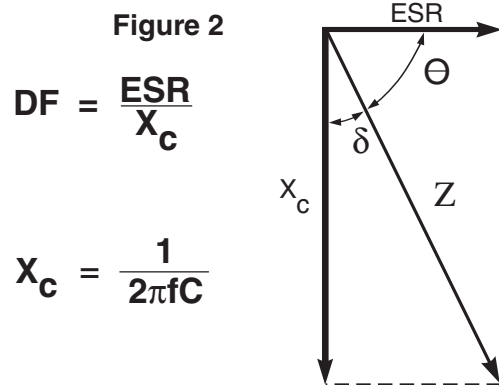

Figure 2
Dissipation Factor: Dissipation Factor (DF) is a measure of the losses in a capacitor under AC application. It is the ratio of the equivalent series resistance to the capacitive reactance, and is usually expressed in percent. It is usually measured simultaneously with capacitance, and under the same conditions. The vector diagram in Figure 2 illustrates the relationship between DF, ESR, and impedance. The reciprocal of the dissipation factor is called the "Q", or quality factor. For convenience, the "Q" factor is often used for very low values of dissipation factor. DF is sometimes called the "loss tangent" or "tangent δ ", as derived from this diagram.
The variation of impedance with frequency is an important consideration in the application of multilayer ceramic capacitors. Total impedance of the capacitor is the vector of the capacitive reactance, the inductive reactance, and the ESR, as illustrated in Figure 2. As frequency increases, the capacitive reactance decreases. However, the series inductance (L) shown in Figure 1 produces inductive reactance, which increases with frequency. At some frequency, the impedance ceases to be capacitive and becomes inductive. This point, at the bottom of the V-shaped impedance versus frequency curves, is the self-resonant frequency. At the self-resonant frequency, the reactance is zero, and the impedance consists of the ESR only.